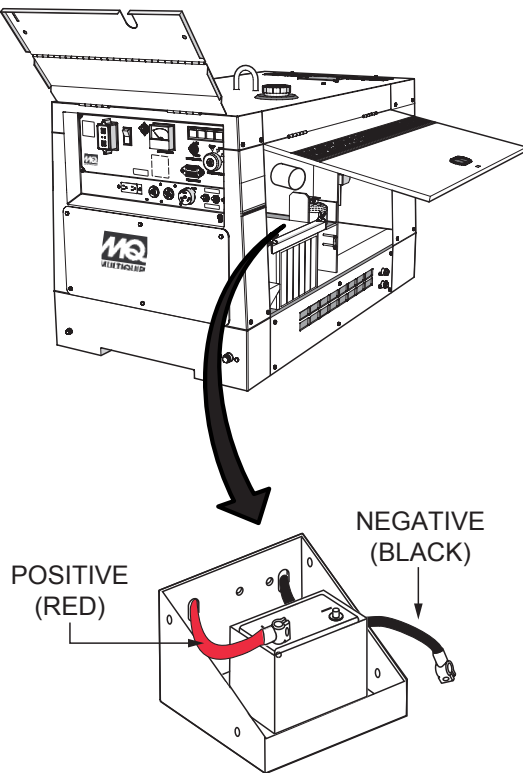

Figure 2. Battery Cable Disconnection
1. Disconnect the negative cable (**BLACK**) from the negative terminal on the battery. See Figure 2.